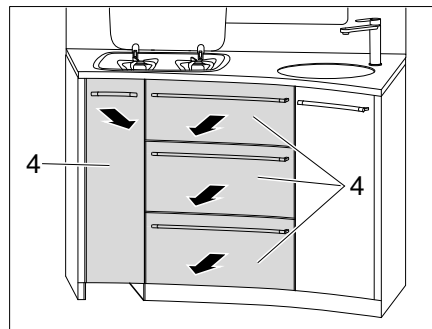

Fig. 133 Removing kitchen drawers
- Remove the kitchen drawers (Fig. 133,4).